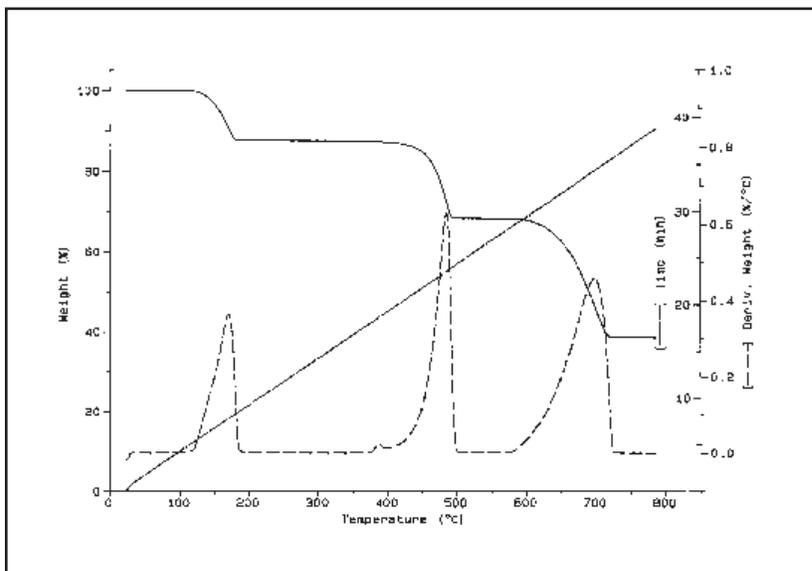
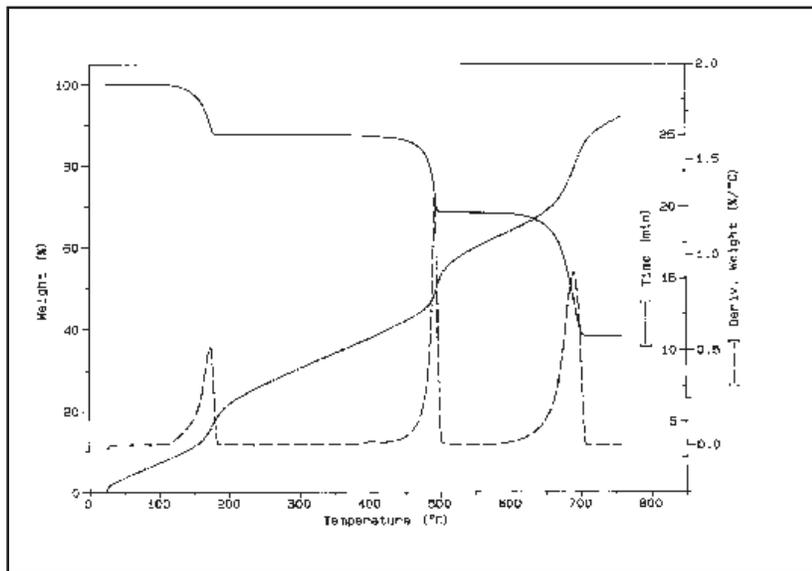
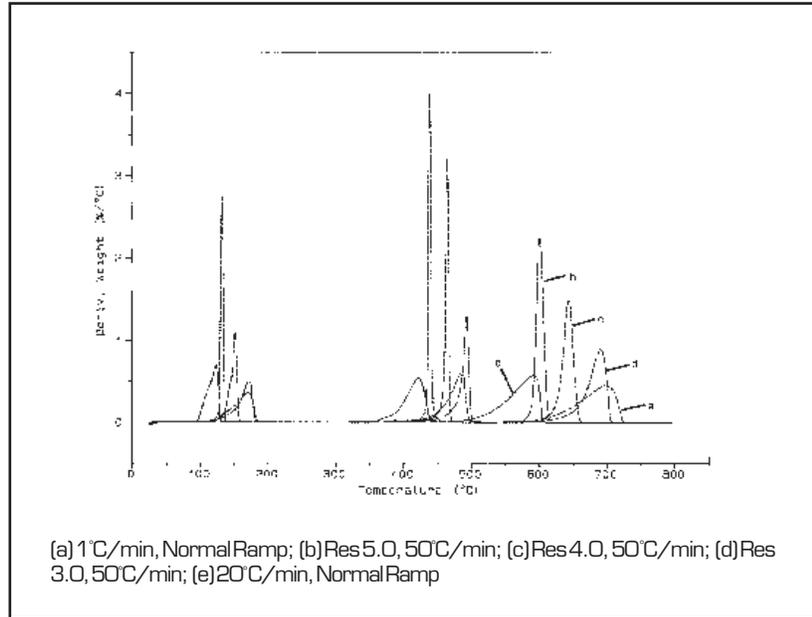

Figure B.1
Figure B.3
Figure B.6
Figures B.1 and B.2 show the results of constant heating rate scans at 20 °C/minute and 1 °C/minute, respectively. Figures B.3, B.4, and B.5 show the results of Hi-Res™ scans at 50 °C/minute with resolution settings 3.0, 4.0, and 5.0, respectively. Figure B.6 shows a composite plot of the derivative of weight loss for each of the five scans. The derivative smoothing window for all plots was set to 5 °C.
Plot from Figures B.1 through B.5
As can be seen in these examples, calcium oxalate has three well-resolved transitions corresponding to the loss of water (first weight loss), carbon monoxide (second weight loss), and carbon dioxide (third weight loss). Comparing the 20 °C/minute and the 1 °C/minute scans (Figures B.1 and B.2) shows some improvement in resolution of the water loss (first transition), but little improvement in the other two transitions.
Comparing the results of the two constant heating rate scans (Figures B.1 and B.2) with the Hi-Res™ scans (Figures B.3, B.4 and B.5) shows that:
- The resolution 3.0 scan (Figure B.3) gave comparable results in two thirds the time required for the 20 °C/minute scan.
Figure B.6 shows a plot of the weight percent derivatives from each of the calcium oxalate scans overlaid on the same scale. Note how much taller and narrower the Hi-Res™ peaks are than those on the conventional scans. Also, transition temperature clearly is reduced by increasing the resolution setting. This effect is normal, because with progressively higher resolution settings, transitions are constrained to lower decomposition rates, which can be maintained only at lower temperatures.